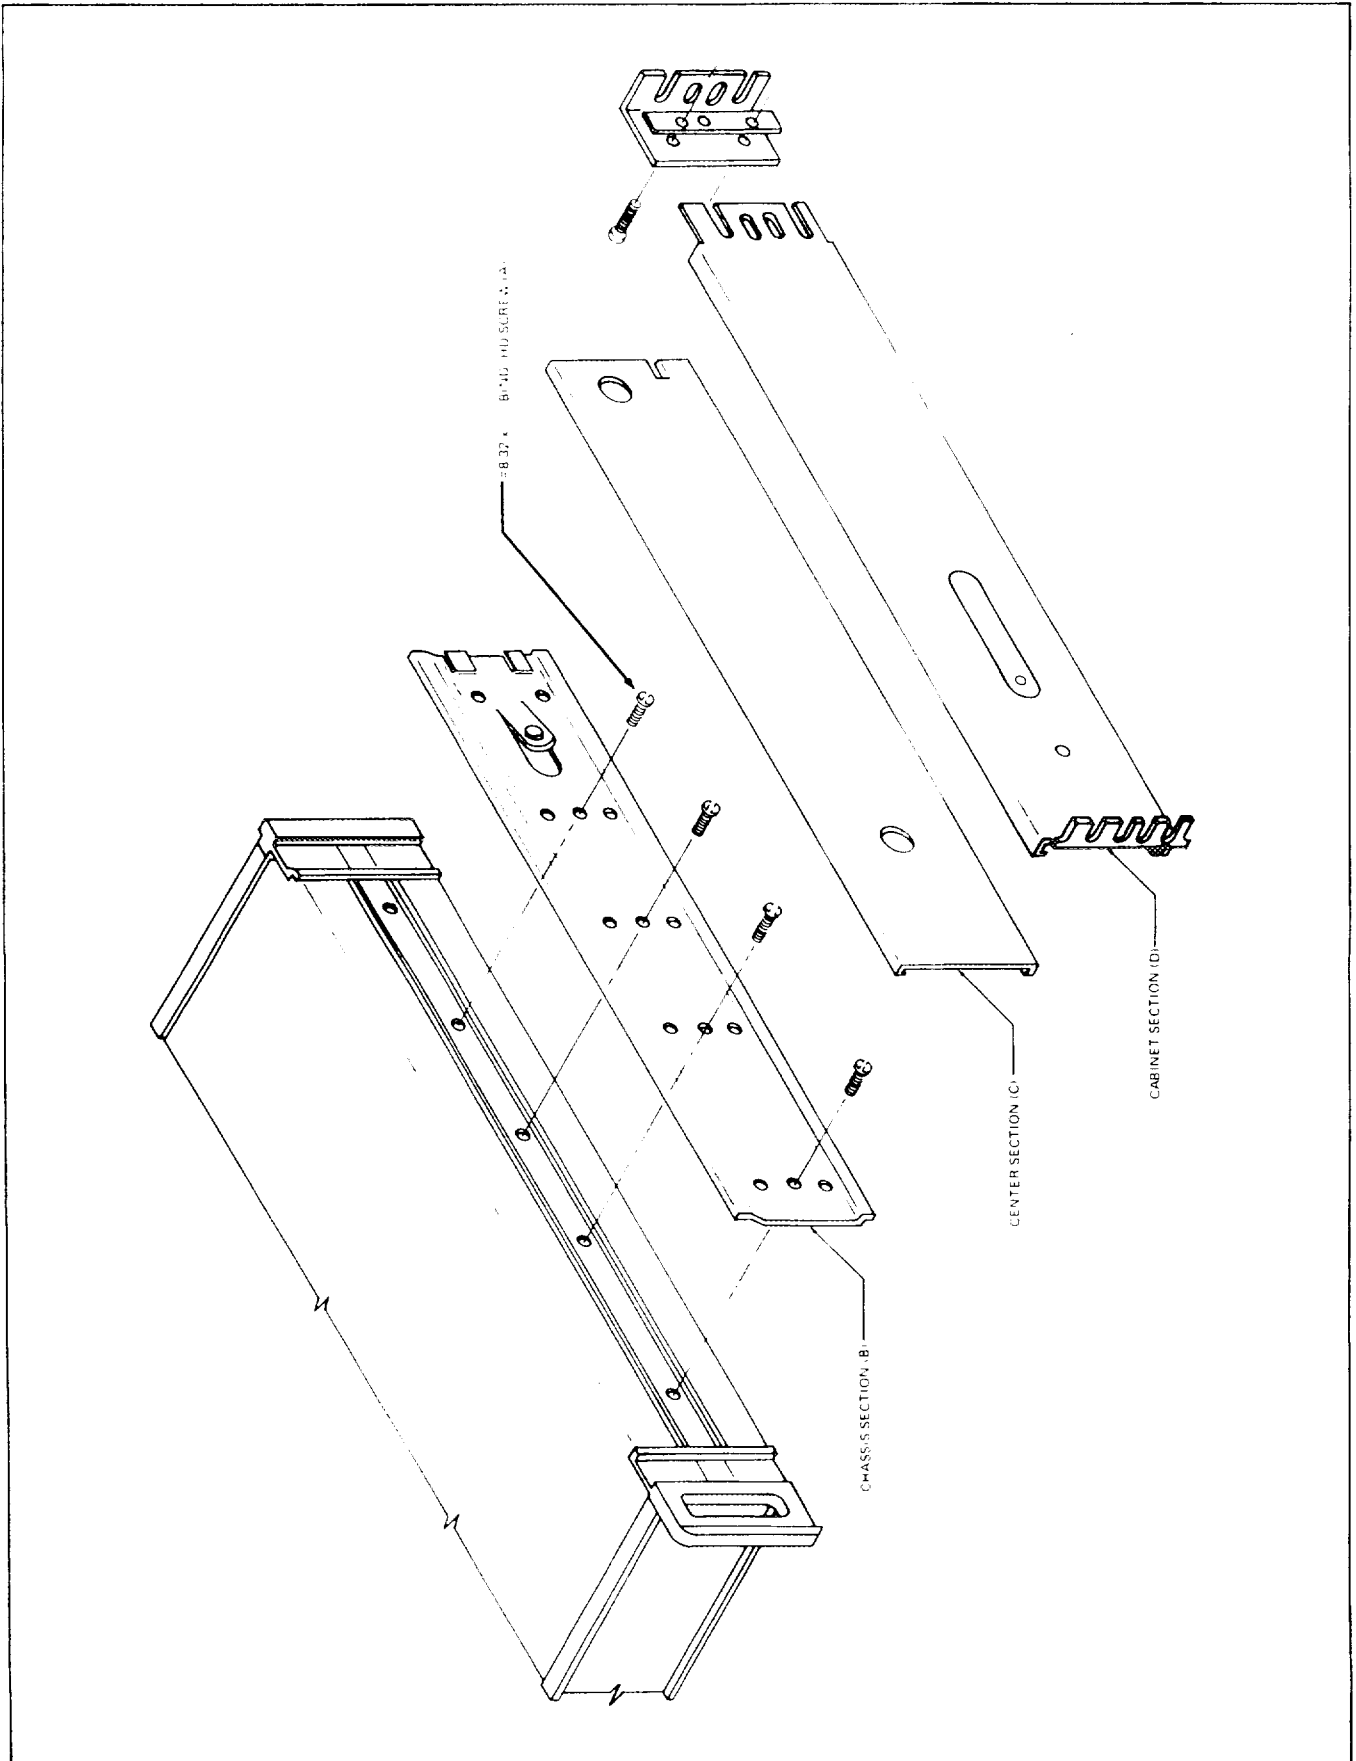

Figure 600-2. Rack Slide Kit
2. Refer to Figure 600-2. Using the screws supplied with the kit, attach the chassis section (B) of the slide kit to each side of the unit. Use the center row of mounting holes.
3. Install the cabinet section (D) of the center section (C) in the equipment rack.
5. Depress the spring locks on the chassis section (B) and join sections B and C.